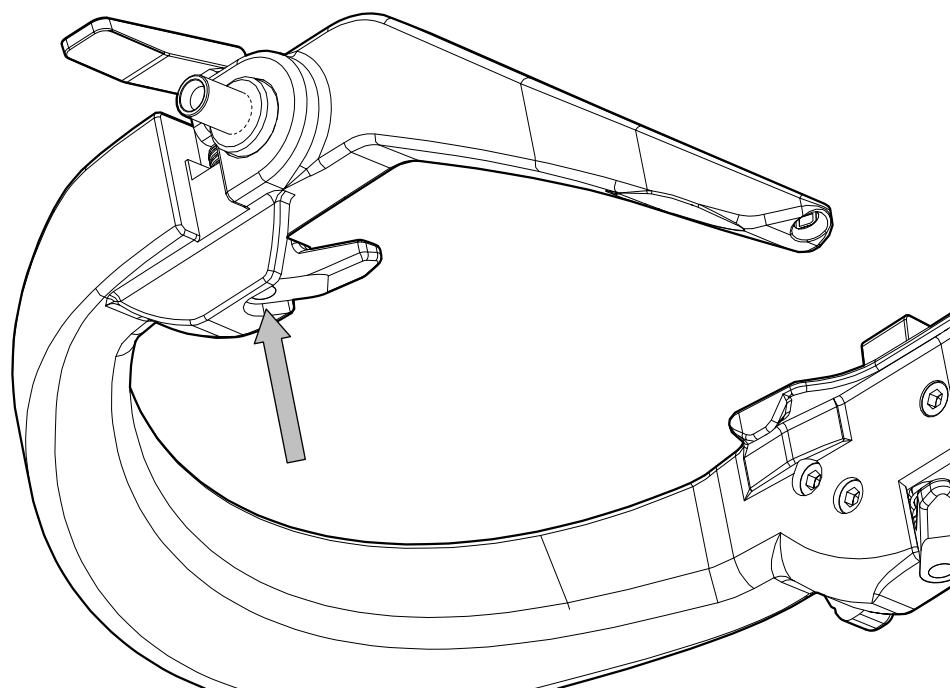
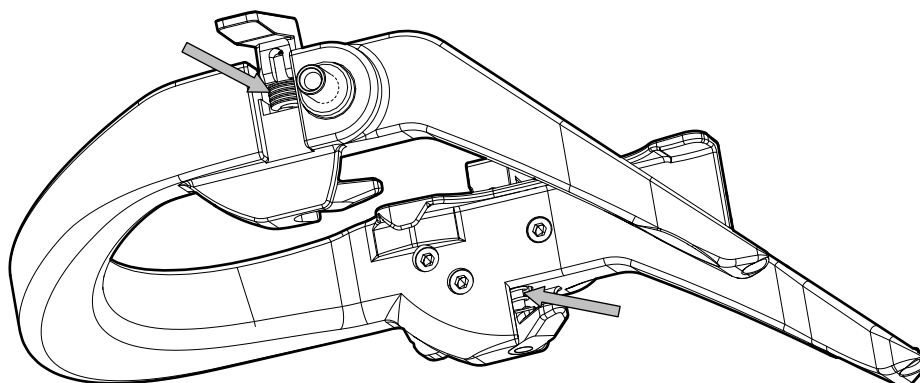

Figure 6.16 Push the shaft to access the shims in the latch
Figure 6.17 Clean between the shims
- 5 Push the shaft, see Figure 6.16 to access the shims in the latch, and clean between the shims with a small cytology brush, see Figure 6.17.
- 6 Release the shaft and clean the spring and the shaft with a small cytology brush, see Figure 6.17.